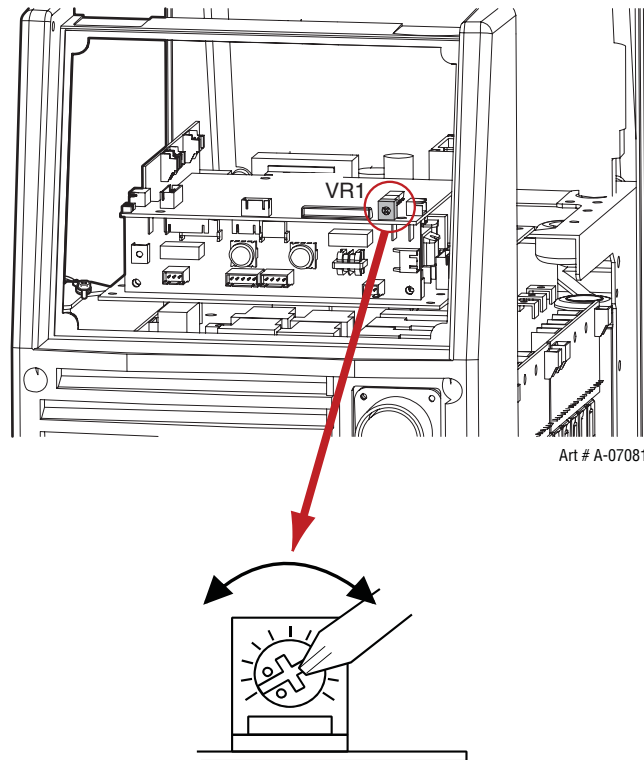

Figure 11-3: VRD ON/OFF Step C and D
- C) Access the VRD control by gently prying back the front panel controls to reveal the VRD on/off potentiometer (see Figure 11-3).
- D) Turning the VRD ON/OFF (see Figure 11-3)